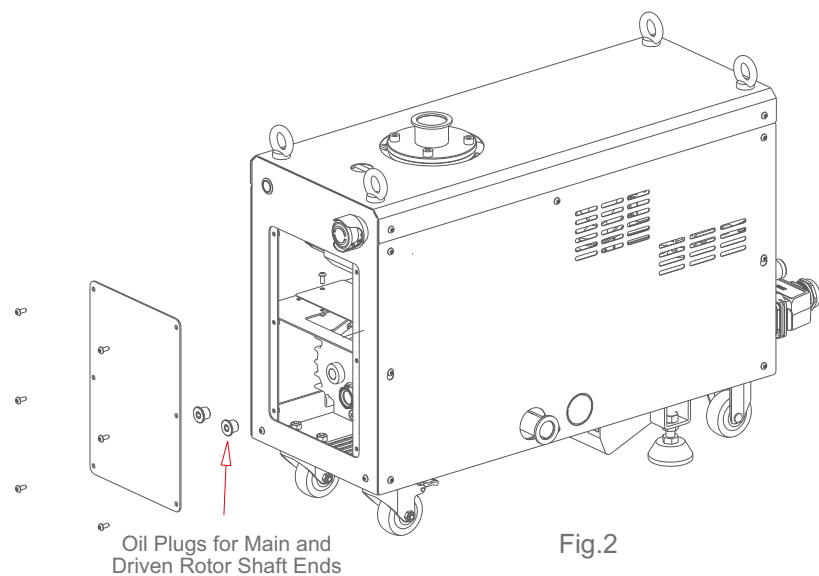

Fig.2
3. As shown in Figure 2, use an 8mm L-shaped wrench to unscrew the oil plugs on the gear front cover end face, aligned with the main and driven rotor shaft ends.